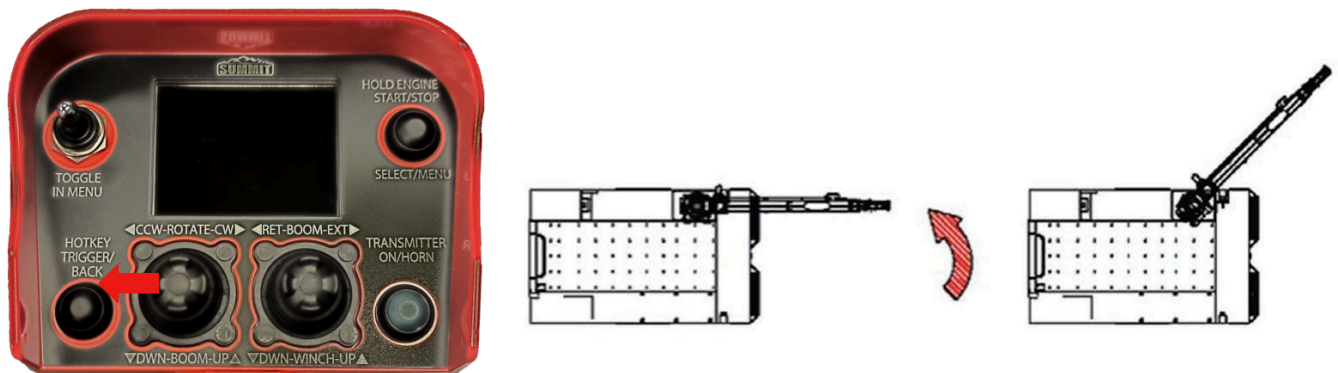

Figure 2-51.
4. Press the left joystick to the left to rotate the boom counterclockwise (see Figure 2-51).